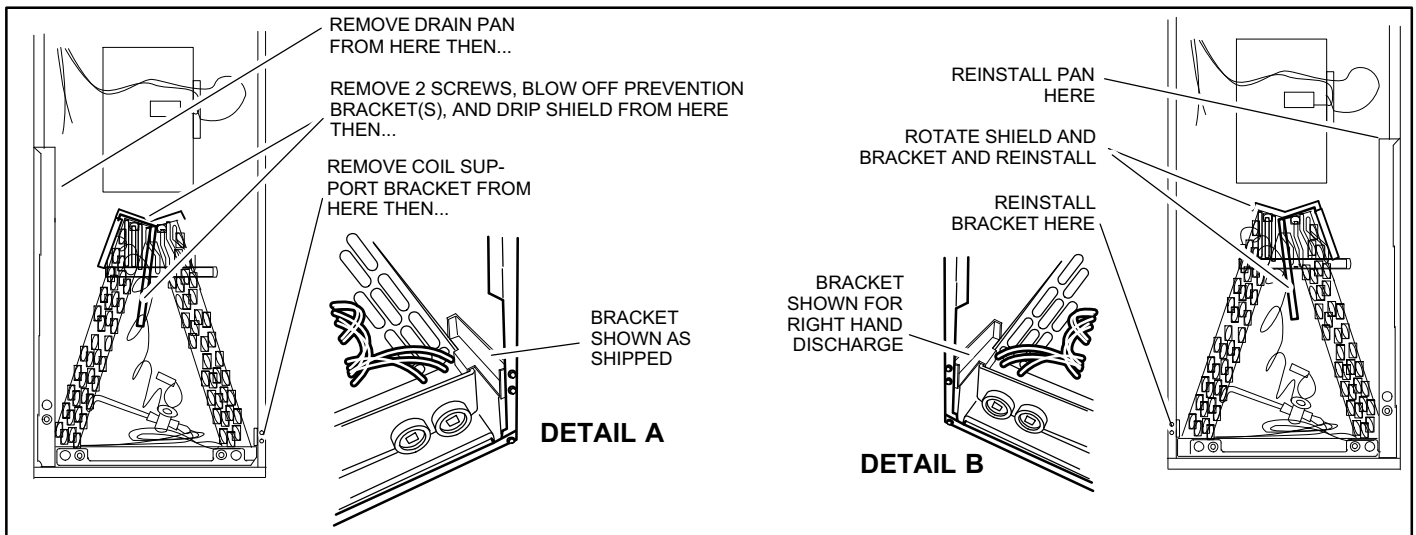

Figure 7. Field Modification for Right-Hand Discharge
2. Remove the coil support bracket (detail A, figure 7).
7. Install the coil support bracket on the opposite side of the air handler (figure 7, detail B).